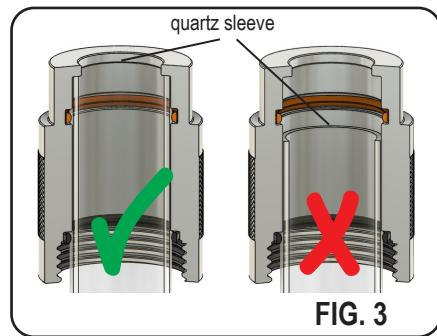

FIG. 3
- 5 Place black O ring over open end of quartz sleeve, approximately 1cm onto the sleeve. Gently insert open end of sleeve into glandnut, being sure to push quartz sleeve all the way in, past the orange O ring, until the top of the sleeve is seated against the inside top surface of the glandnut. See FIG. 3.